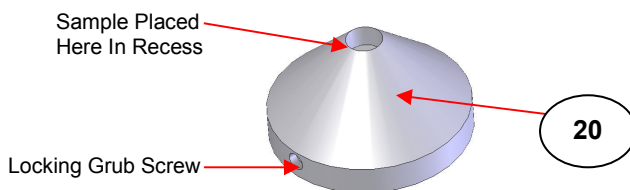

Fig 15. 4mm Diameter Micro Sample Cup
There is one 4mm diameter x 2.5mm deep micro sample cup (20) provided. (See Fig 15.)